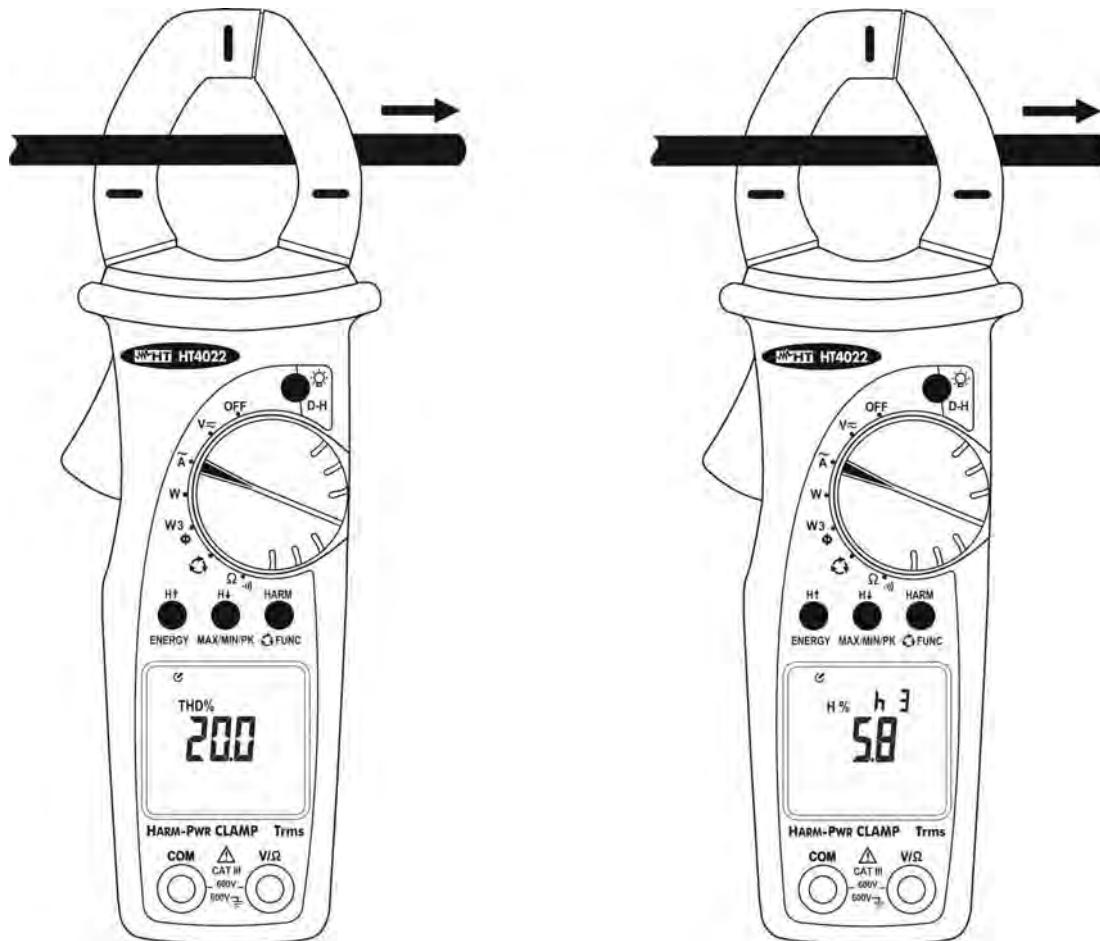

Fig. 10: Use of instrument for AC harmonic current measurement
3. Open the jaws and clamp only one cable. Pay attention to the alignment marks (see § 4.1.2. and Fig. 10). The instrument displays the Total Harmonic Distortion value of the input signal. The symbol **“THD%”** is displayed. See § 8 for the parameter's definition.